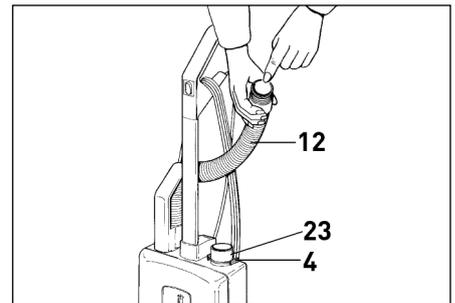

Figure 16
## Clogs in the Attachment Hose - Figure 16
Remove attachment hose (12) from vacuum cleaner (see figure 16) and remove front cover (7). Clean out connecting tube (29) and/or entrance to bag (28).